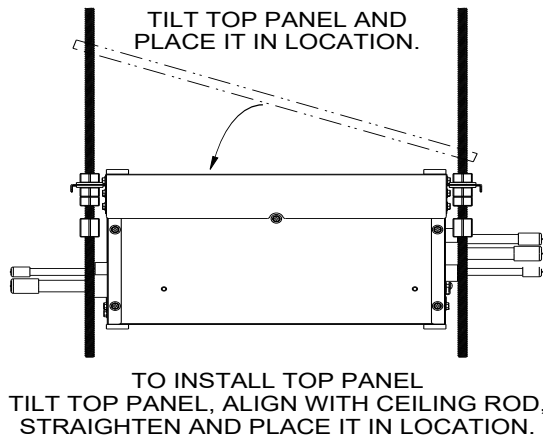

**FIGURE F.1**
- When installing the Enclosure, ensure there is enough clearance above the unit to install the Top Panel (Refer to Fig. F.1).
- 1.2 Install the top panel (Item 2) by tilting the top panel diagonally between the ceiling rods, aligning the ceiling rods in the 4 cut-outs of the top panel. (Refer to Figure F.1)